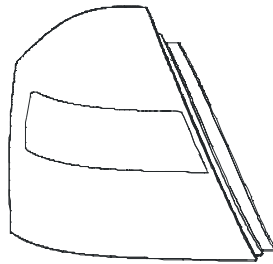
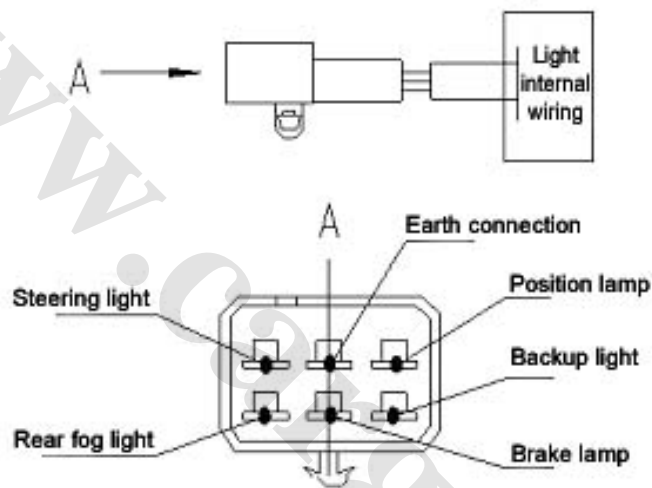
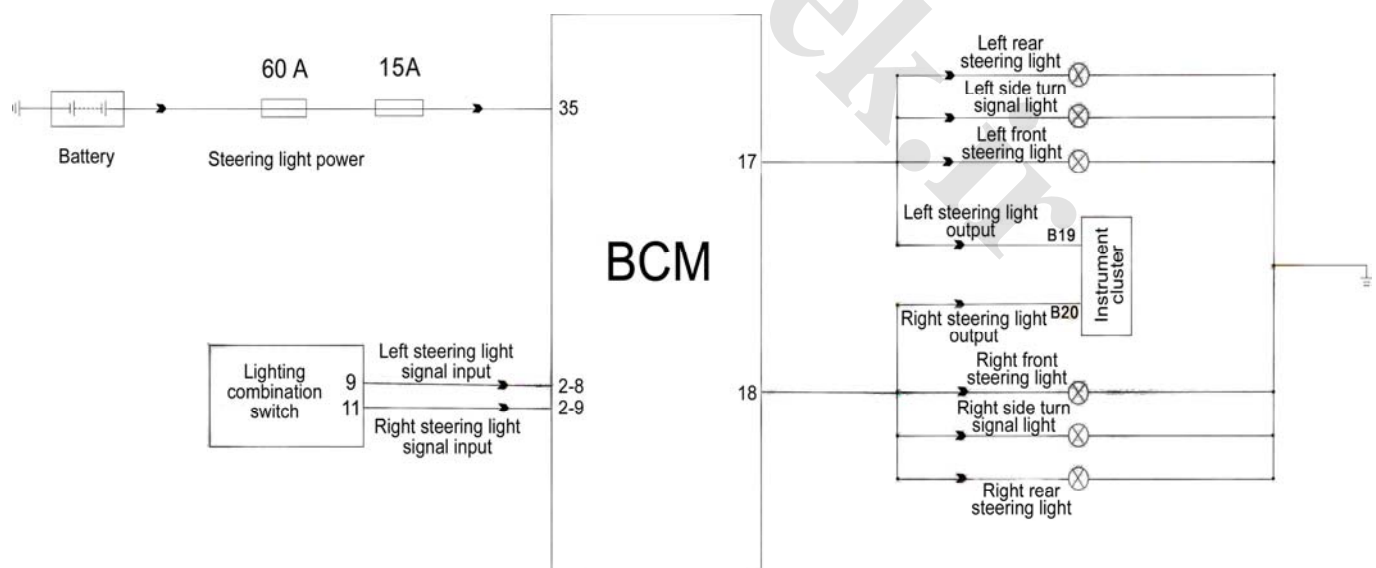

Fig. 4-63
Fig. 4-64
Fig. 4-65
2. Rear combination lamp (Fig. 4-63, Fig. 4-64 and Fig. 4-65)